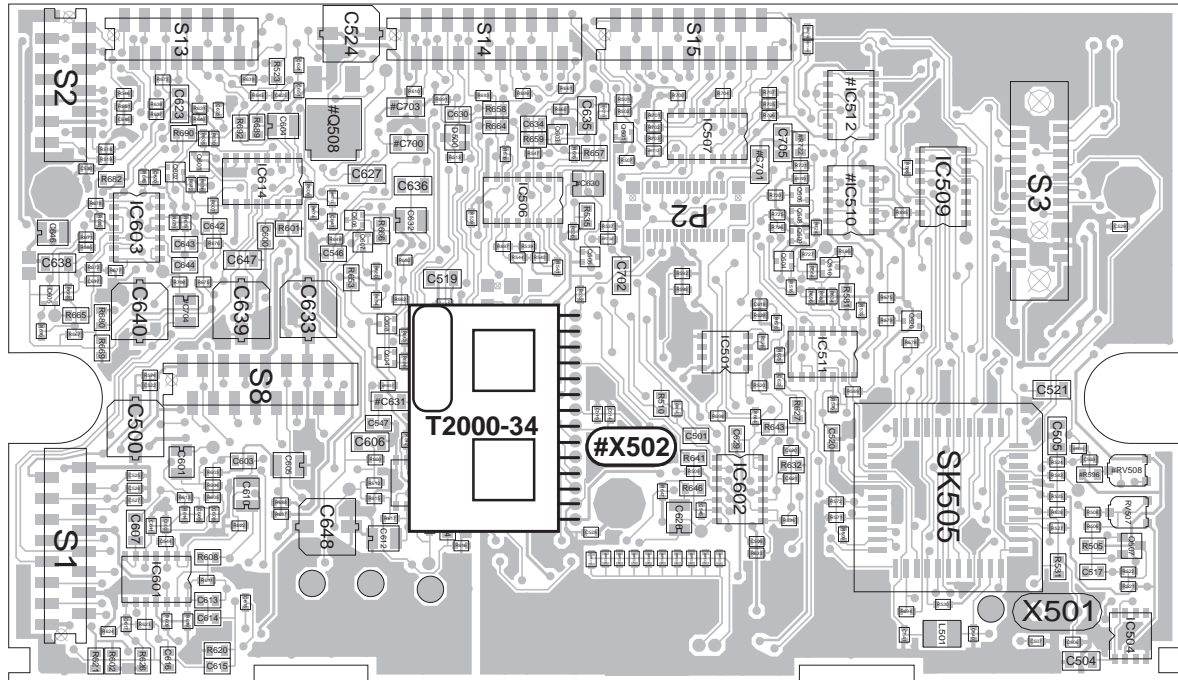

Figure 8.7.1 T2000-34 Selcall PCB Mounting - T2010 & T2015 Logic PCB (top side)
Refer to Figure 8.7.1 and Section 7.10, "T2010 & T2015 HC05 Logic PCB".
- 3 Place the Selcall module flat on the logic PCB, as shown in Figure 8.7.1, with the component side facing upwards.